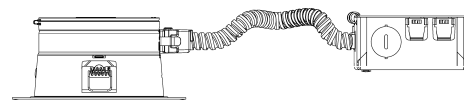

Figure 2
**Contents required to make a full fixture:** Trim module and mounting option (Remodel or New Construction - Fig 2).